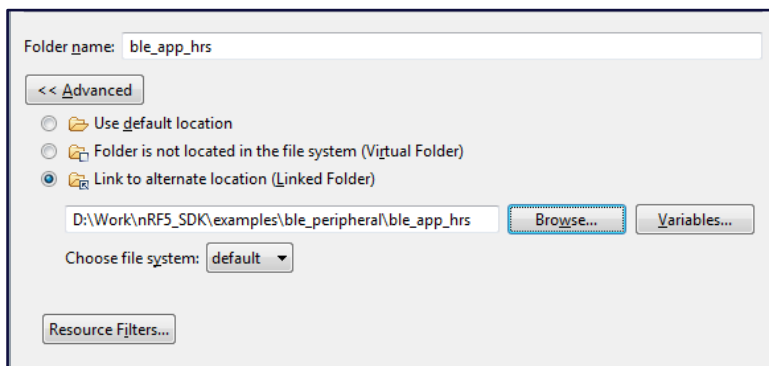

Figure 16: Adding files and folders to the project
8. Select **Link to alternate location (Linked Folder)** and browse to the location of the hrs project, e.g.: **D:\Work\nRF5\_SDK\examples\ble\_peripheral\ble\_app\_hrs** (Figure 16).